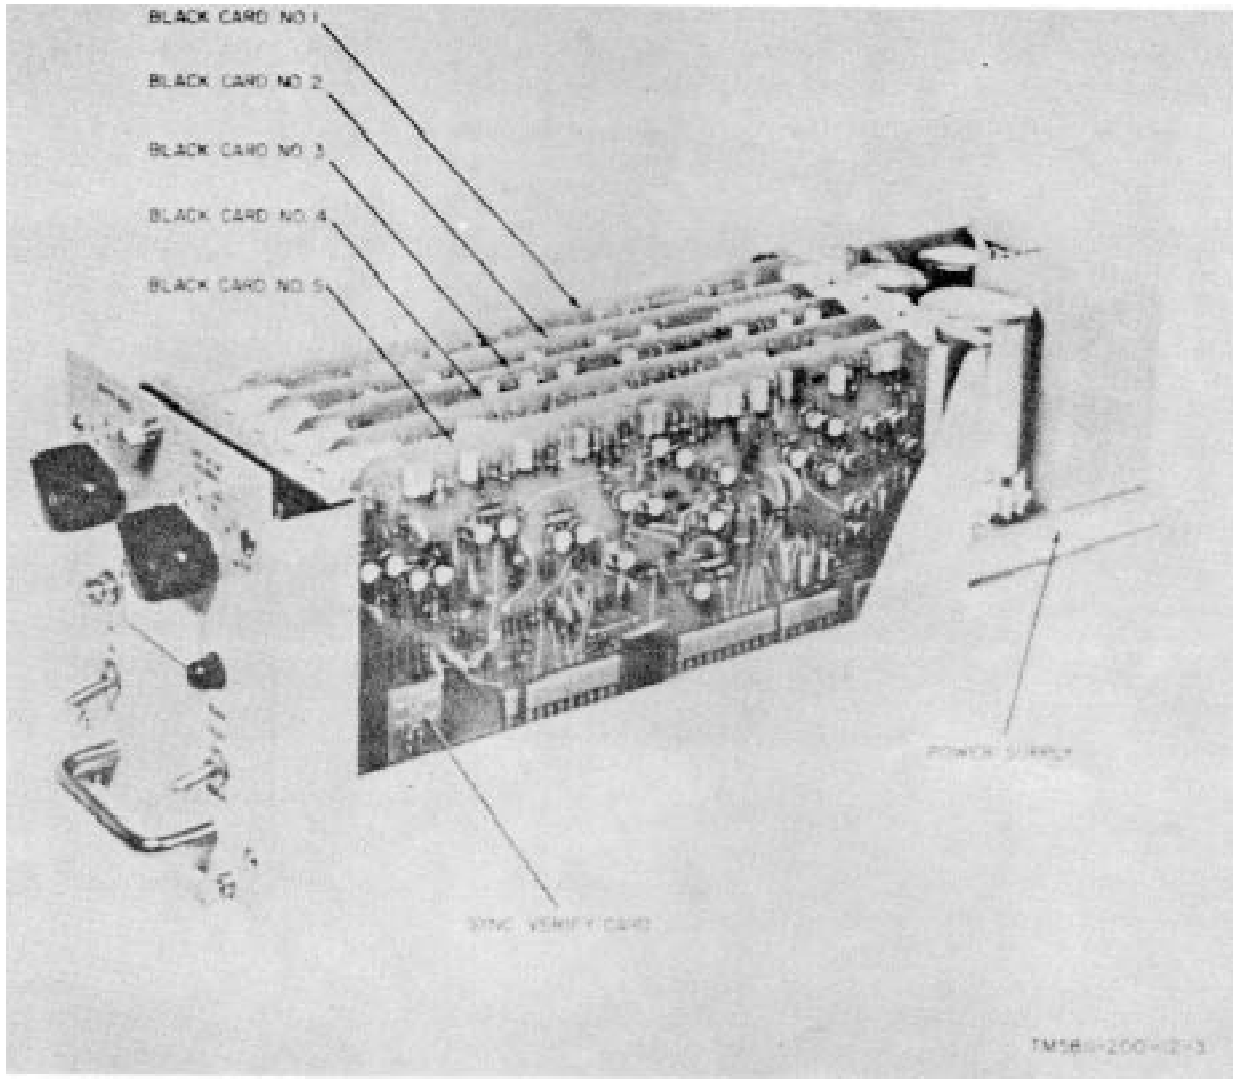

Figure 1-5. Black logic module removed from equipment case.
b. *Black Logic Module* (fig. 1-5). The black logic module contains black printed circuit cards one through five, the mother board, the sync verify card, the power supply, and the controls and indicators used for operation of the synchronizer. The black logic module is mounted on a drawer-type, plug-in chassis, accessible from the front of the equipment case. The black logic module is held in the equipment case by three captive screws.
c. *Red Card* (fig. 1-5). The red card is a plug-in type printed circuit card which contains the control logic for the red functions performed by the synchronizer. The red card is accessible from the front of the equipment case after the rfi shield (tempest cover) has been removed.
d. *Power Supply* (fig. 1-5). The power supply is mounted at the rear of the black logic module. Operating from a single-phase, 120- or 230-volt source, the power supply provides power for the black logic module and, through an isolator, for the red card.